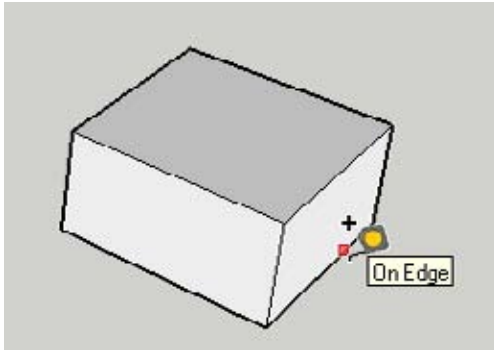

Figure 10-21
2. Click the edge to which you want the construction line to be parallel (Figure 10-21). Do not click an endpoint.